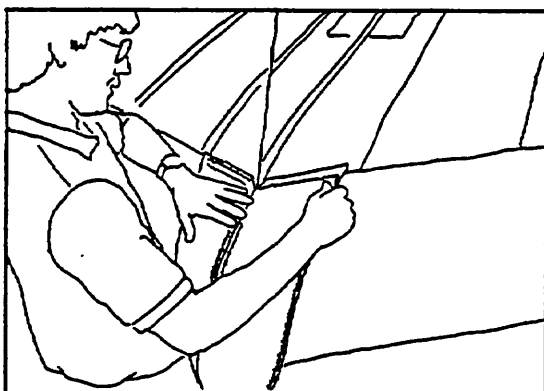

Figure 64
25) Install the nose cone, mating the velcro surfaces together carefully, and making sure that the nose cone lies flat against the sail on both the top and bottom of the sail. (Figure 64, 65)